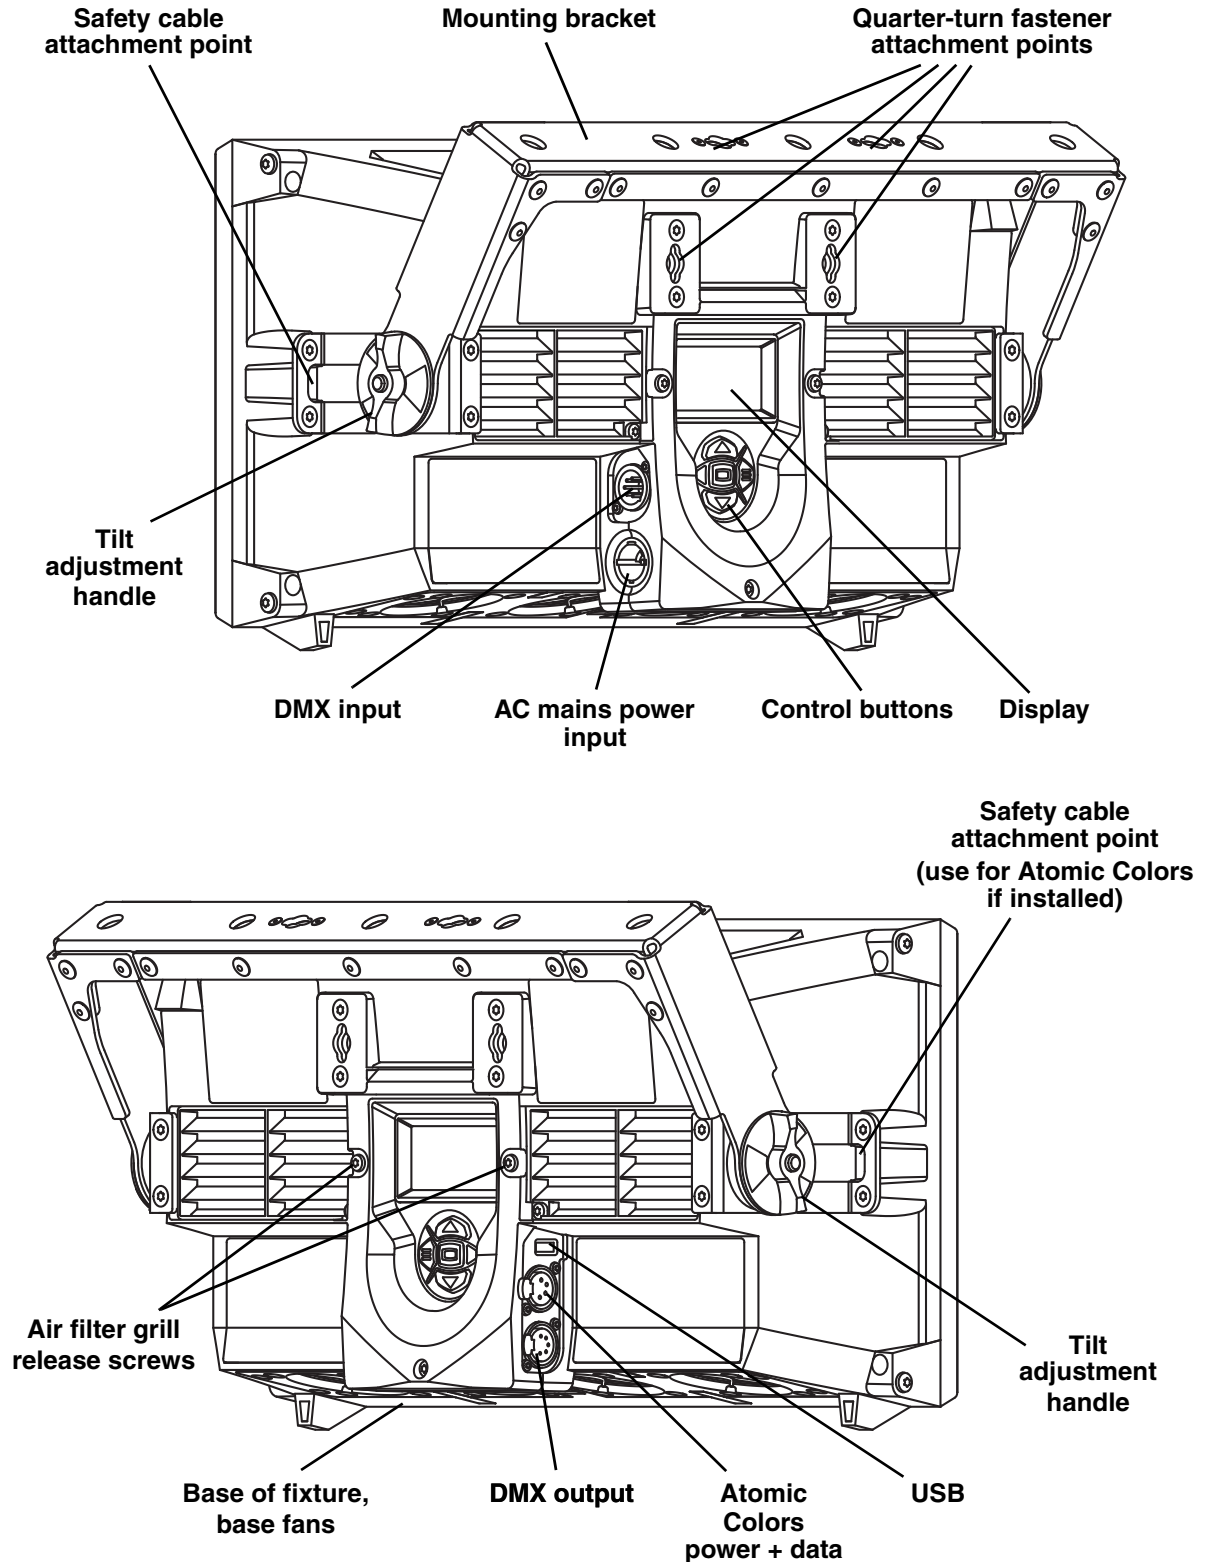

Figure 1: Fixture overview
3. If the fixture may fall and cause injury or damage if the primary attachment fails, attach an approved safety cable to a secure anchoring point and to one of the safety cable attachment points on the fixture (see Figure 1 on page 7).
4. If necessary, adjust the orientation of the fixture by loosening the tilt adjustment handles (see Figure 1 on page 7), adjusting the aim of the fixture and retightening the tilt adjustment handles. Apply firm pressure by hand only – do not use tools to tighten the tilt adjustment handles.
5. If you have fastened the omega bracket to the fixture's mounting bracket, adjust the orientation of the fixture to obtain the desired aiming by loosening the tilt adjustment handles (see Figure 1 on page 7), adjusting the aim of the fixture and retightening the tilt adjustment handles.